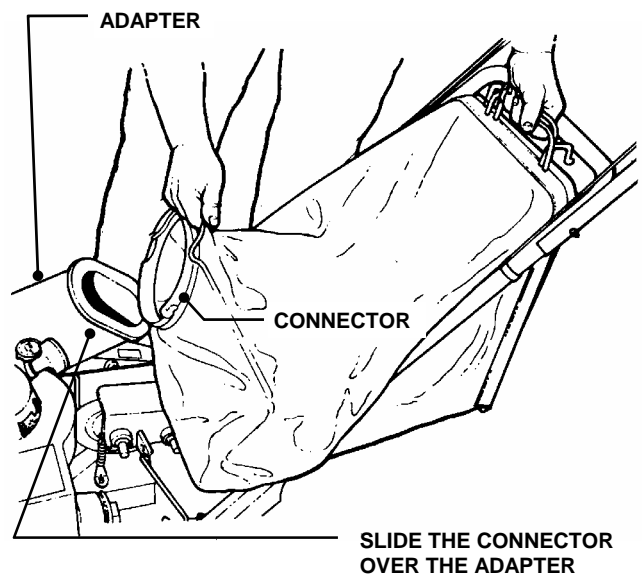

FIGURE 3
STEP 3: The grass catcher can now be installed. Slide the connector over the adapter. See Figure 3.